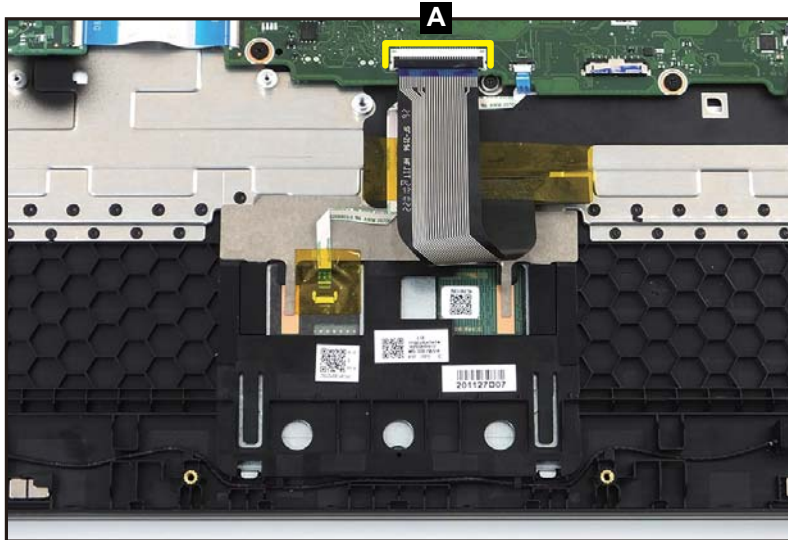

Figure 1-9. Touchpad Module Removal
1. Disconnect the keyboard FPC from the mainboard connector (A) (Figure 1-9).